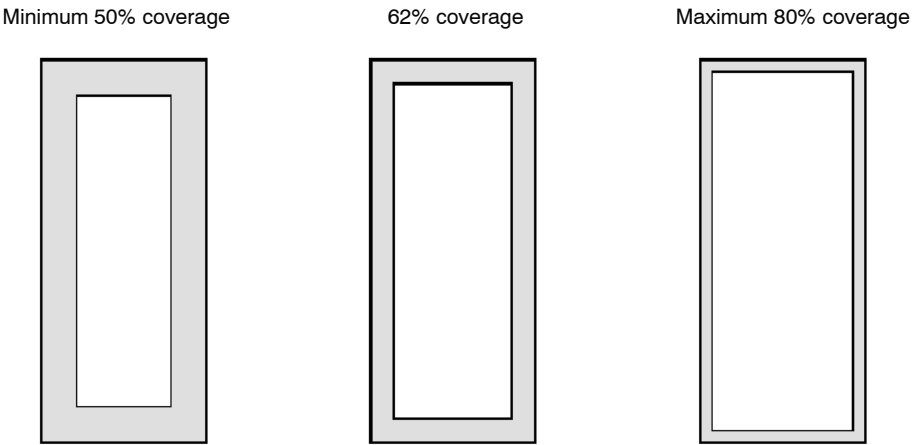

Figure 21. Solder Paste Application on Pins
5. The aperture opening for the signal pads should be between 50–80% of the QFN pad area as shown in Figure 21.